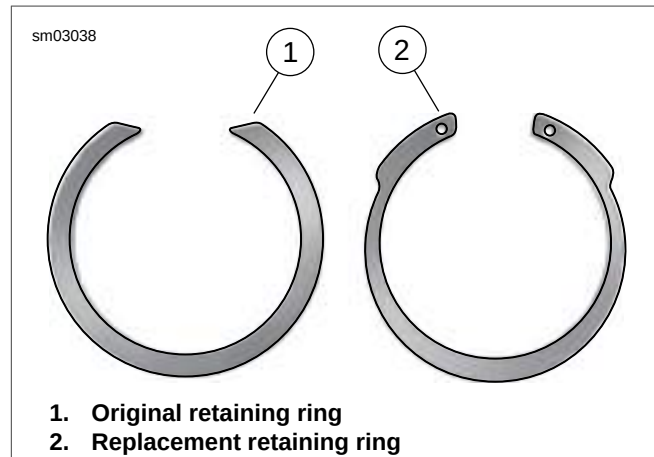

Figure 6-38. Main Drive Gear Retaining Rings
See Figure 6-38. When replacing needle bearings, discard original retaining rings (1) and install replacement retaining rings (2).